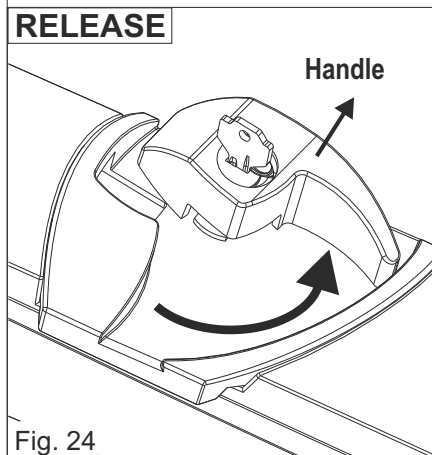

Fig. 24
- 3) Turn the handle counter-clockwise to release the operator (Fig. 24)